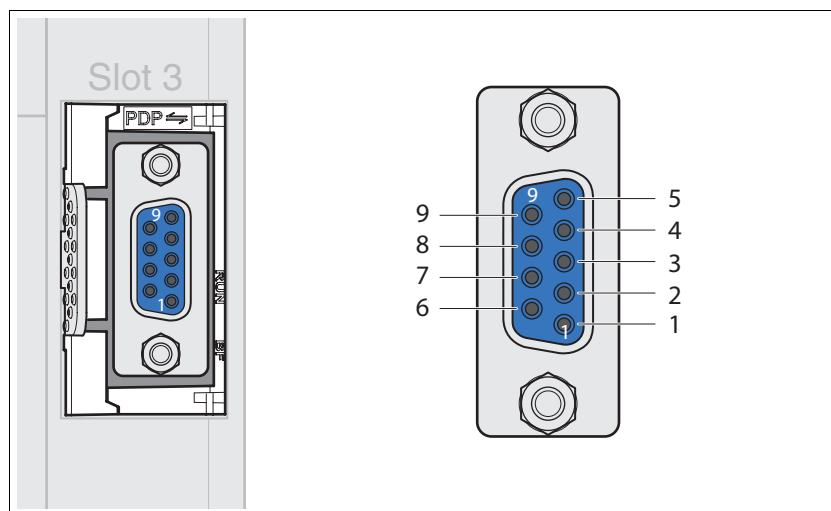

Figure 4.2 Pin assignment
- ▶ Connect the Profibus signals as per Figure 4.2.